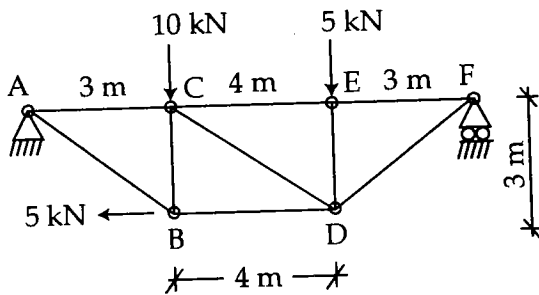

Fig. 8
6. (a) Find the forces in the members CE, CD and AC of the truss shown in the fig. 8. Use method of section. 7+7